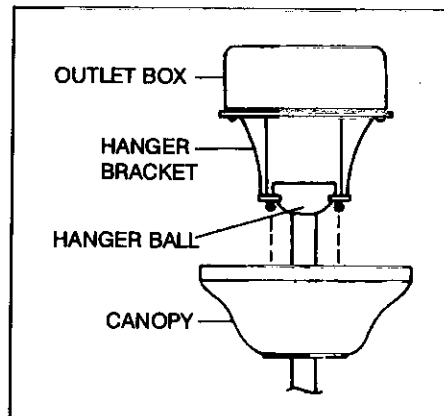

FIG. 16
Step 1. Slide canopy up against ceiling. Align key holes in canopy with screws on hanger bracket and rotate canopy clockwise to lock it into place. Secure canopy to hanger bracket by tightening the two screws. (Fig. 16)